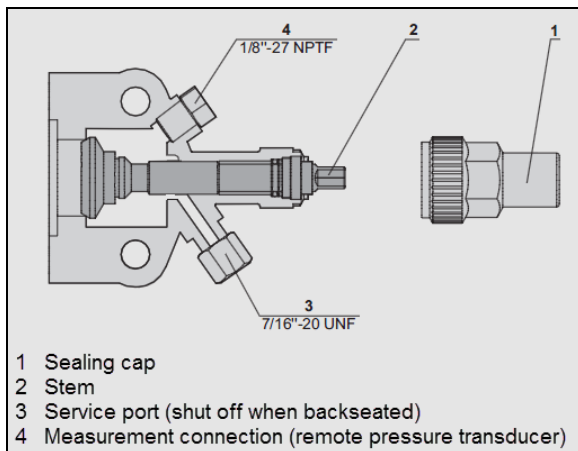

FIGURE 81: COMPRESSOR SHUT-OFF VALVE IN FRONT SEATED POSITION
3. Close (frontseat) the receiver tank outlet shutoff valve by turning the stem clockwise (Figure 47 and Figure 81).
10. Close (frontseat) the suction shutoff valve on the compressor (Figure 81).